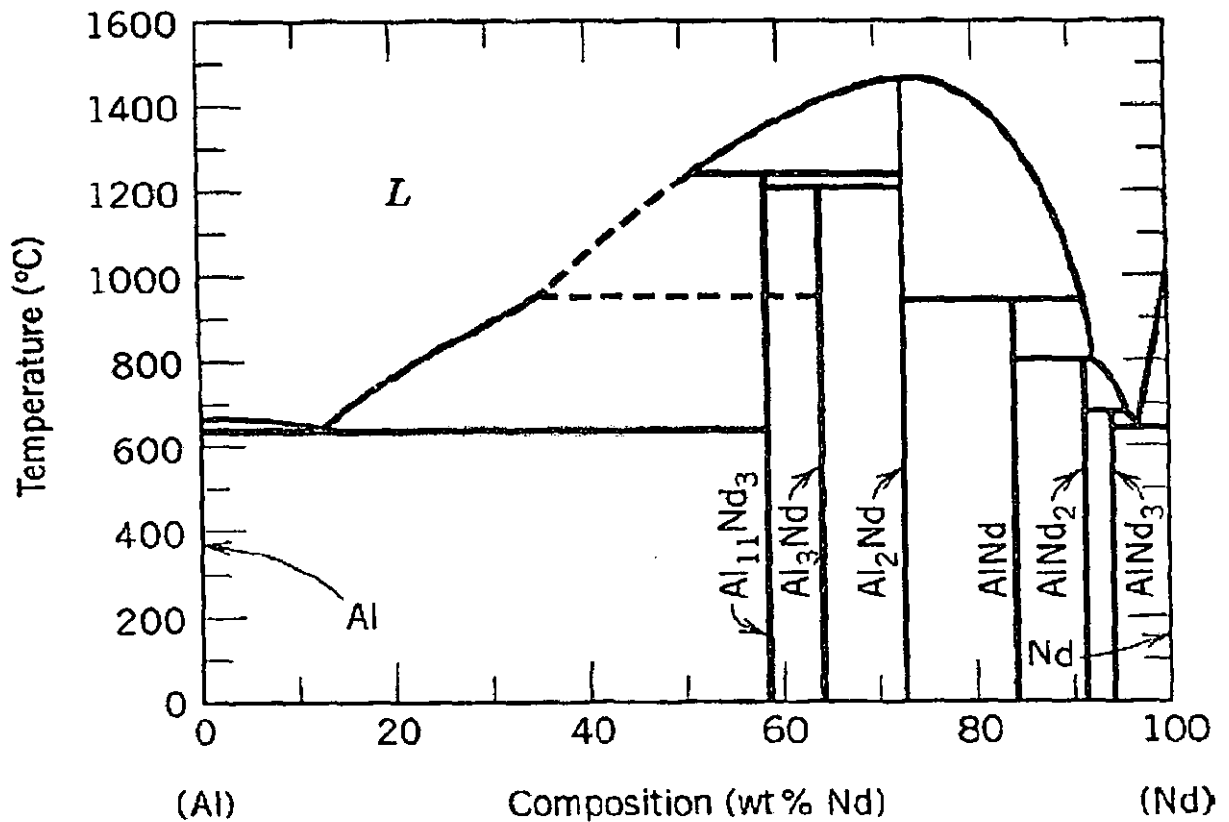

Figure 16.1
16. Figure 16.1 is the aluminum–neodymium phase diagram, for which only single-phase regions are labeled. Specify temperature-composition points at which all eutectics, eutectoids, and peritectics phase transformations occur. Also, for each, write the reaction upon cooling.